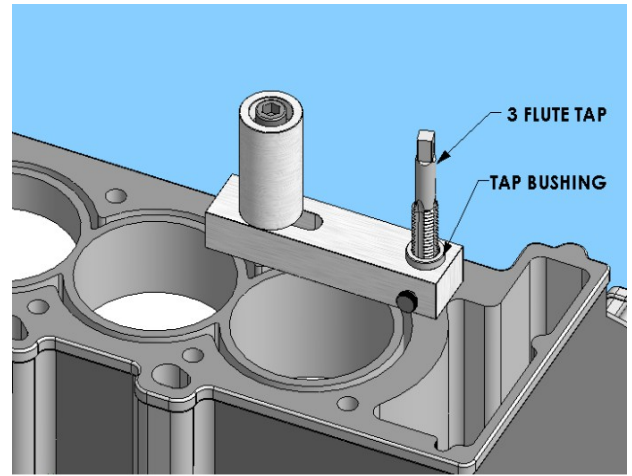

FIGURE 3A
4. **Figure 3A-** Install the Tap Bushing in the jig. Using the 5/8-11 three-flute Plug Tap, TAP MAGIC® and the proper tap wrench, thread the hole about 2" deep. Then you can remove the jig. This will make it easier to clean out the chips when threading the remainder of the hole. **If the optional 6" tap is required, always thread as deep as possible with the shorter 3 flute tap first since it is stronger due to it's shorter length.** You should back out the tap often and remove the chips created by the tap so that the tap will not jam them into the bottom of the hole. Failure to do so could cause the tap to break. **NEVER use power tools to drive the taps!**